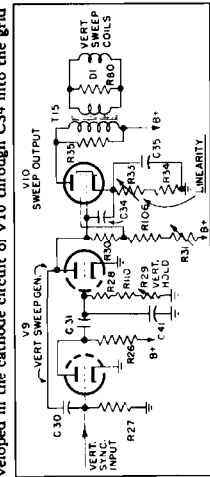

Fig. 9. Vertical Sweep and Output
7. VERTICAL SWEEP GENERATOR AND OUTPUT (SEE FIGURE 9)—The vertical sawtooth voltage is generated by a Type 6SN7GT tube, V9, connected as a multivibrator. This voltage is coupled directly to a Type 6V6G vertical sweep output amplifier tube, V10, and then to the vertical sweep yoke, D1, through the impedance matching transformer, T15. Vertical speed is controlled by changing the time constant of the multivibrator circuit by the potentiometer, R29. Sweep size or height of picture is changed by the potentiometer, R31, which changes the B+ voltage applied to the charging network (R30, C34) of tube V9 simultaneously with the screen voltage on tube V10. Vertical linearity is controlled by feeding back correcting voltage developed in the cathode circuit of V10 through C34 into the grid